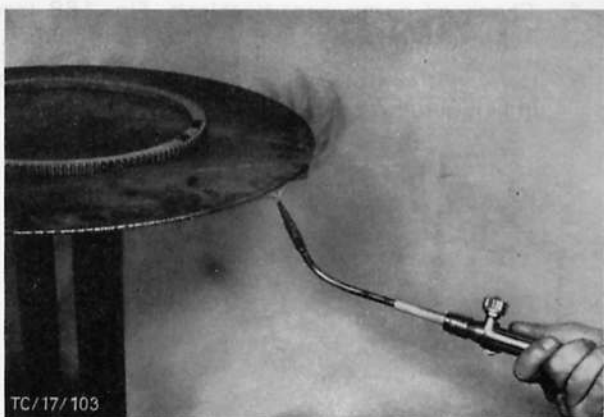

Fig. 165. Heat ring gear
3. Place new ring gear on a plate some 2 to 3 mm (0,08 to 0,12 in) thick and heat up plate to 260° to 280 °C (500° to 540 °F) from below, in area of ring gear itself, using a welding torch to give uniform heating, Fig. 165. To monitor temperature, mark ring gear with a thermochromatic coloured pencil (Faber Castell 2815) before starting heating operation. On reaching temperature indicated on cover, colour marked on ring gear changes to colour on pencil cover.